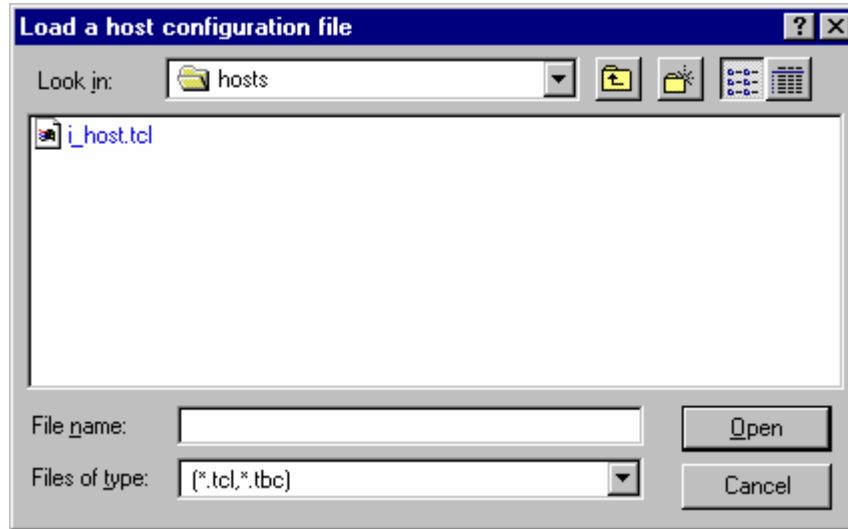

Figure 3-3. Load a Host Configuration File Dialog
- **H**ost Config...—Presents a dialog box for loading a host configuration file. Figure 3-3 shows the **H**ost Config... dialog box:
- **P**latform Config...—Presents a dialog box for loading a platform configuration file. This menu item remains unavailable until a host configuration file is successfully loaded. Except in name, the **P**latform Config... dialog box is identical to the box shown in Figure 3-3.
- **T**arget Config...—Presents a dialog box for loading a target configuration file. This menu item remains unavailable until a platform configuration file is successfully loaded. Except in name, the **T**arget Config... dialog box is identical to the box shown in Figure 3-3.